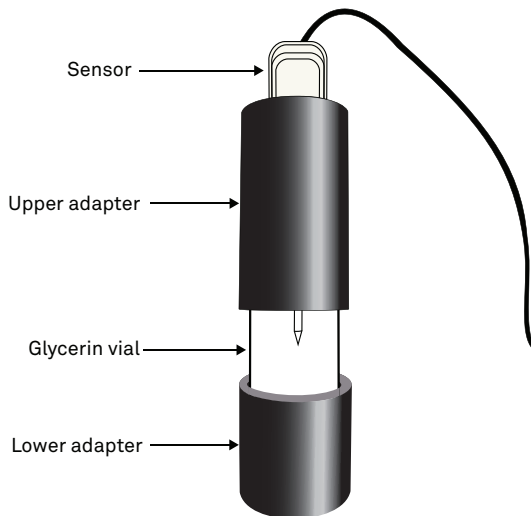

Figure 47 Glycerin file with sensor inserted
7. Press the sensor through the glycerin vial septum (Figure 47).